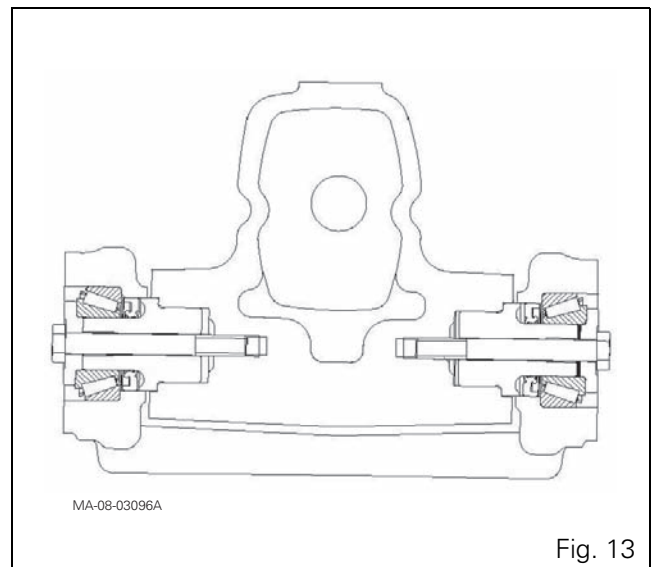

Fig. 13
**IMPORTANT:** Ensure that the tapered roller bearings are mounted in the correct direction, on the lower pins, the bearings must be inserted with the cup facing inwards (in the arm) and the cone facing outwards (on the pin) (see Fig. 13).